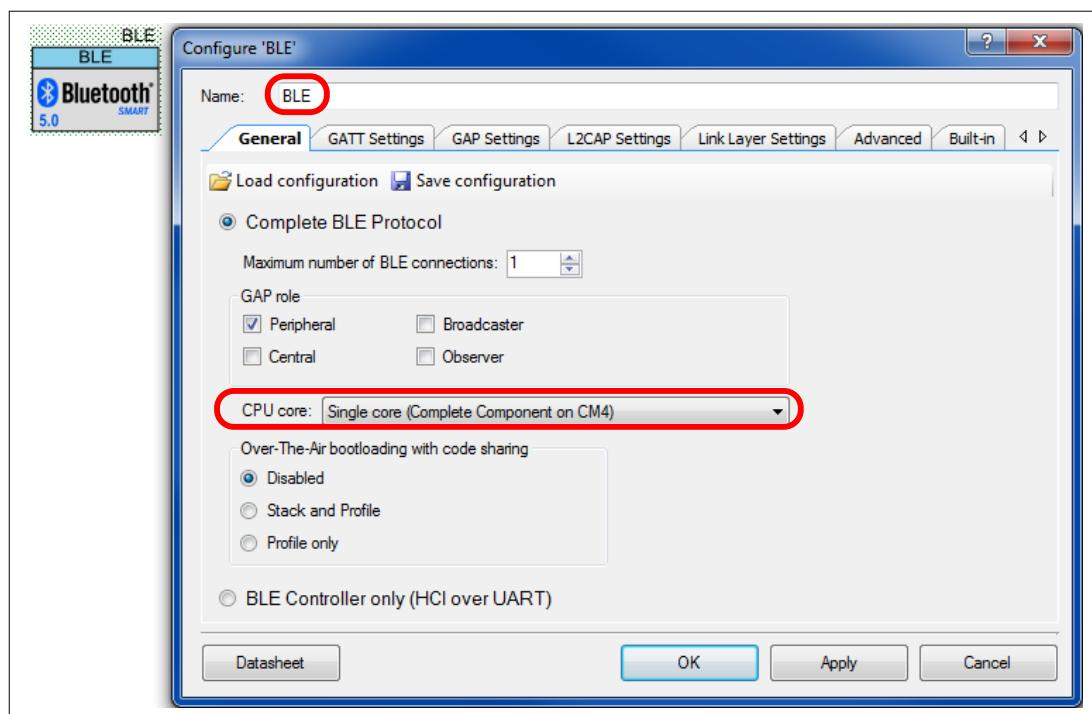

Figure 587 PSoC™ Creator BLE component, General Tab configuration
- General tab** (see Figure 587): CPU core: **Single core (Complete Component on CM4)**